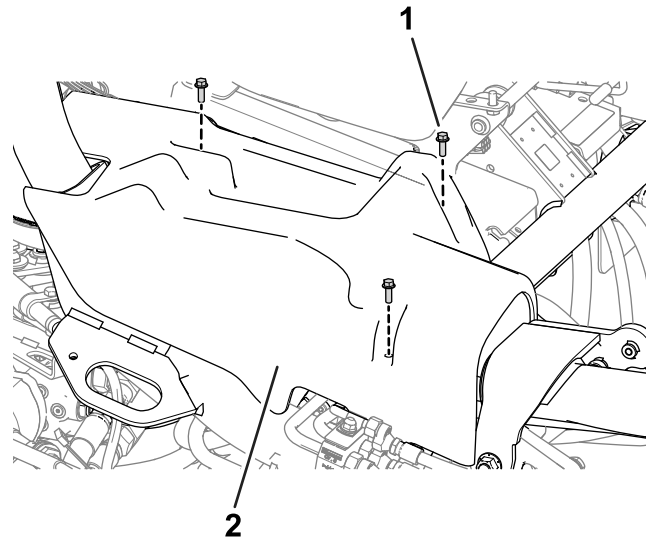

Figure 10
4. Remove the right side cover (Figure 10) from the machine.
8. Install the right side cover to the machine (Figure 10).